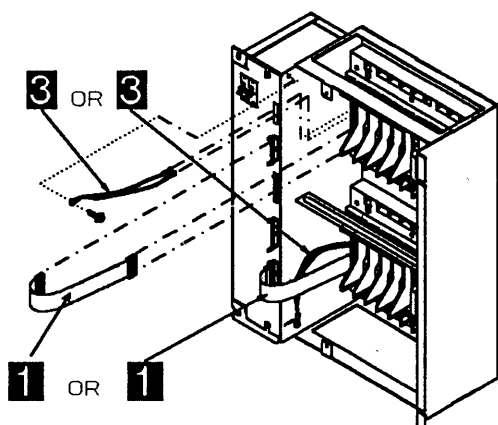
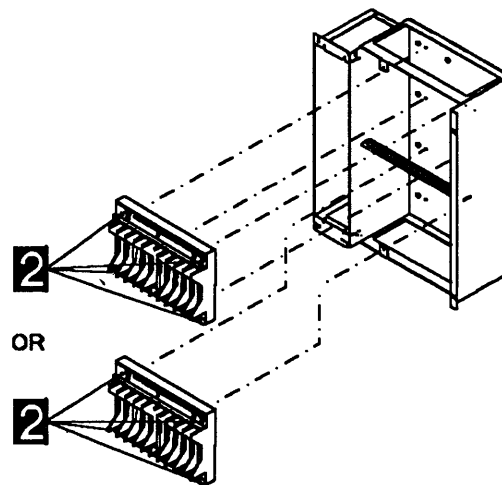

Figure 5-142. LIC Board Type 1 Enclosure Assembly
Figure 5-143. LIC Board Type 1 Assemblies
Refer to Figure 5-142 and Figure 5-143 and do the following:
2. Refer to Figure 5-143 on page 5-141.
3. Refer to Figure 5-142 on page 5-141.